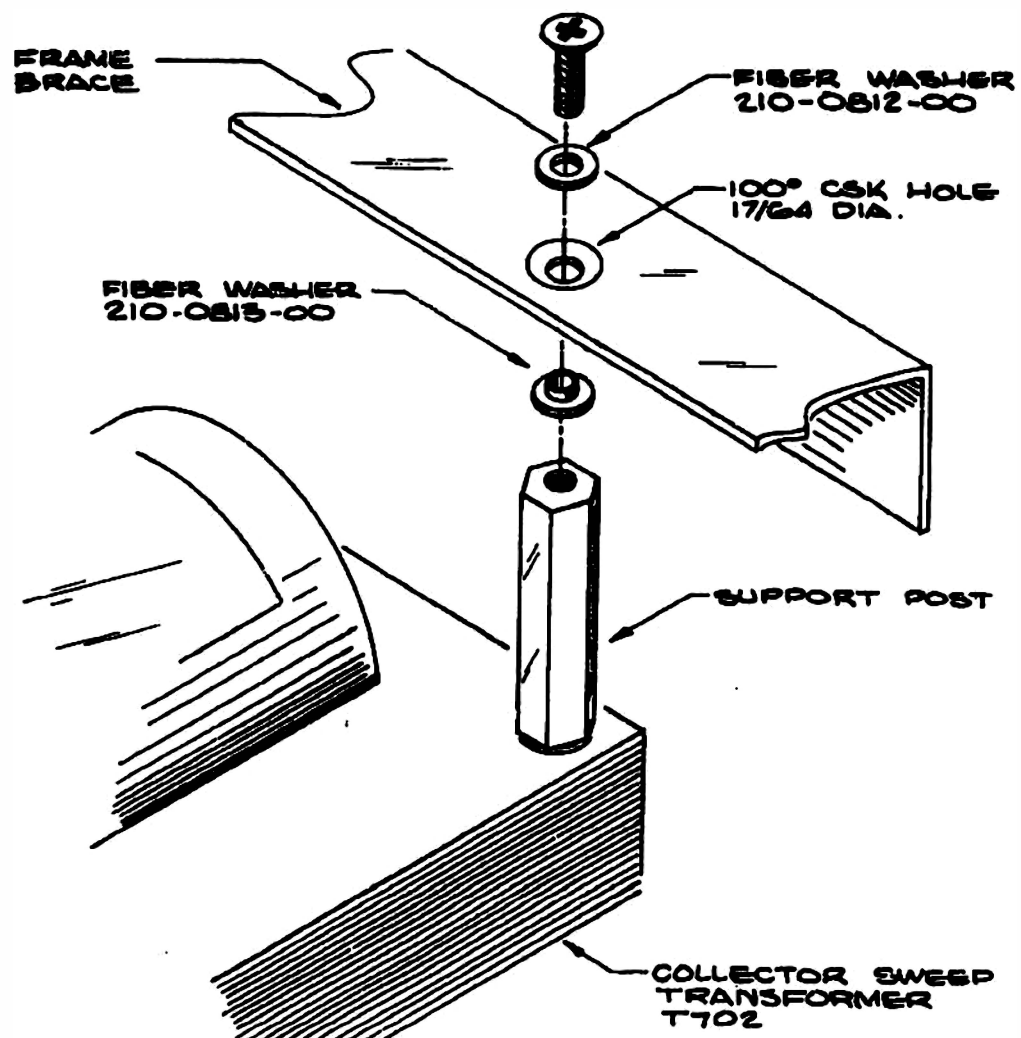

FIG. 16
- () 81. Turn instrument upside down and refer to Fig. 16 while performing steps 82 through 84.